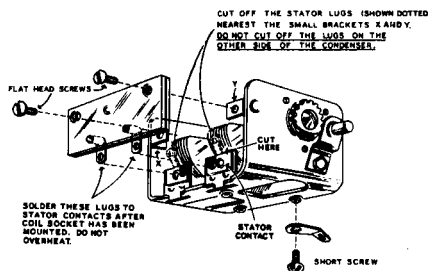

Fig. 4
- () Study Figure 4 and cut off the two stator lugs indicated. These lugs (shown dotted) are nearest the small brackets which are riveted on the condenser frame.
- () Mount the coil socket on the tuning condenser frame as shown in Figure 4. Use 6-32 flat head screws.
- () Solder each coil socket lug to the nearby stator contact indicated in Figure 4.
- () Mount a solder lug on the tuning condenser frame as shown in Figure 4. Use a short screw.